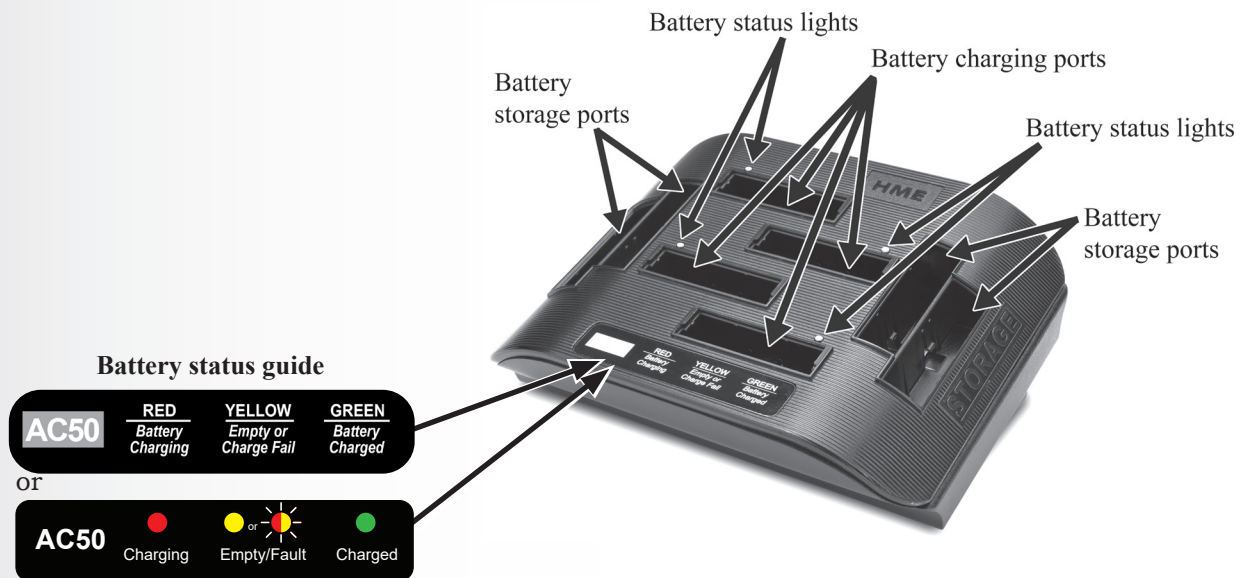

Figure 12. AC50 Features and Battery Status Guide
- If a **YELLOW LIGHT** is on steady or a **YELLOW and RED LIGHT** is flashing next to a battery in a charging port, it means the charge failed (yellow/red flashing only occurs on battery chargers using the second Battery status guide label shown in Figure 12). If this happens: